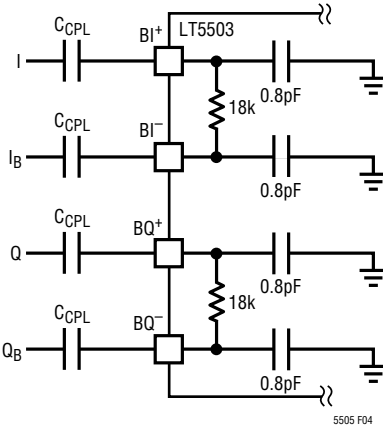

Figure 4. AC-Coupled Baseband Interface
**AC-Coupled Baseband.** Figure 4 shows the simplified circuit schematic of a high-pass AC-coupled baseband interface.